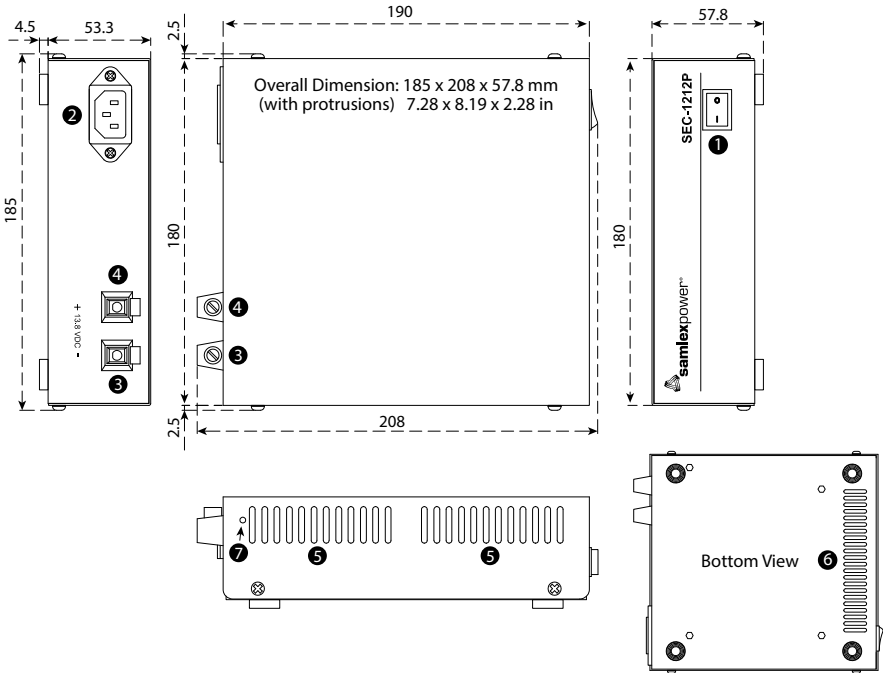

Figure 2.1 Layout & Dimensions - SEC-1212P
**NOTES:** 1. The top cover will fit properly only when the 2 lanced tabs (7, Fig 2.1) are oriented towards the DC output terminals (3) and (4).
**NOTE!** The DC output connectors (3 and 4, Figs 2.1 to 2.3) have a tubular hole of diameter 0.2" (5mm) with a set screw. For a firm connection, crimp/solder pin type copper terminal on the cable ends of your 12V DC device (2 Pin Type of terminals (for wire size up to AWG #8) have been supplied with the unit).
**REMARQUE !** Les connecteurs de sortie (DC 3 et 4, figures 2.1 à 2.3) a un diamètre de trou tubulaire 0,2" (5mm) avec une vis. Pour un lien ferme, à sertir/ soudez les broches de cuivre de type borne sur les extrémités du câble de votre appareil DC 12V (2 broches type de terminaux ont été fournis avec l'appareil).
Ensure that the power supply's ON/OFF switch (1, Fig 2.1 to 2.3) is off and the power supply is unplugged from the AC outlet. Switch off your 12 V DC device and connect it's Positive and Negative to the RED (Positive) and BLACK (Negative) terminals respectively (3 and 4, Figs 2.1 to 2.3). Ensure that the connections are secure and tight. Plug the power supply into the
SEC-1212P is cooled by convection. For this, it has ventilation slots on the 2 sides of the top cover (5, Fig 2.1) and in the bottom housing (6, Fig 2.1).
- Ventilation slots on the sides of the top cover (5, Fig 2.1) and in the bottom housing (6, Fig 2.1) are blocked
In SEC-1212P, there is no fan. Cooling is carried out by convection through the ventilation slots on the 2 sides of the top cover (5, Fig 2.1) and in the bottom housing (6, Fig 2.1). For improved cooling of the Primary Heat Sink through conduction, the air gap between the top surface of the Primary Heat Sink and the bottom surface of the top cover is filled by using a thermally conductive gap filler strip of soft, ceramic filled silicone elastomeric material. When the top cover is removed and fitted back, its orientation has to be such that the thermally conductive gap filler strip gets positioned properly on top of the Primary Heat Sink. To ensure this, 2 lanced tabs (7, Fig 2.1) are provided in the top cover that will slide into the corresponding slots in the rear side of the bottom housing. The top cover will not fit properly if the 2 lanced tabs (7, Fig 2.1) are facing towards the front side of the bottom housing because the lances tabs will interfere with the top edge of the front side of the bottom housing (there are no corresponding slots on the front side of the bottom housing).